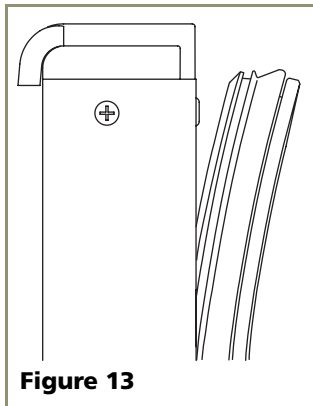

Figure 13
2. Pull door gasket out of groove (top edge of door only). Start in the middle and pull outward, moving toward the edge (see **Figure 13**). This may take some force.